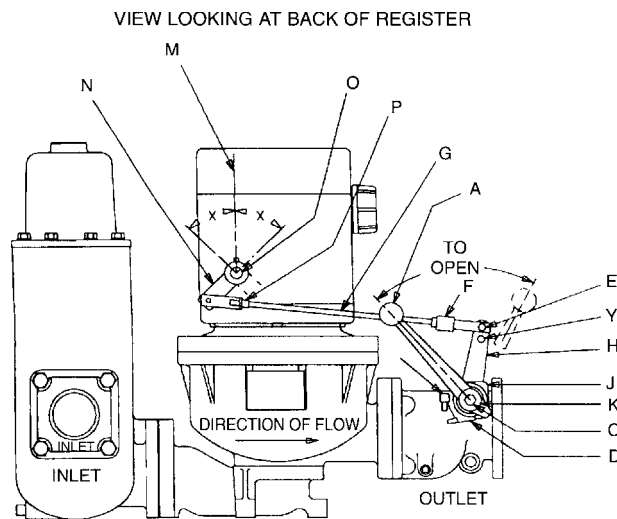

FIGURE 13
1. Depress the emergency stop button on the register and turn the shaft (O) clockwise.
2. Assemble register arm (N) on knurled knot in position as shown for specific assembly. (See illustration). Arm should move an equal distance each side of vertical center line (M) (Angle $x=x$).
3. Assemble valve arm (H) as shown for specific assembly. On the right hand assembly there must be one notch between the cast mark (K) on the valve arm and the cast mark (J) on the stop plate (J above K). On the left hand assembly these cast marks must be in line.
4. Assemble one nut (P) on connecting rod (G) and assemble clevis to the other end of the connecting rod a distance of 1".
5. Insert end of connecting rod through the register arm link and assemble clevis (F) to valve arm (H) using upper hold (Figure 13). Insert clevis pin (E).
6. Open valve all the way. The opening of the valve is stopped by the set screw (B) which should project approximately 1/8" below the lug holding it. Turn shaft (O) counterclockwise to latch mechanism. With valve held open, tighten nut (P) against register arm link. The assemble and tighten second nut at (P).
9. After the initial trip occurs the valve should close to the intermediate flow position. This rate should be approximately 20 to 25 gpm. If the valve closes too far, or all the way, unscrew clevis (F) on rod (G) to hold valve open further. If the rate of flow is too fast during the intermediate position, turn the clevis onto the rod to allow the valve to close further. It should not be necessary to turn more than one